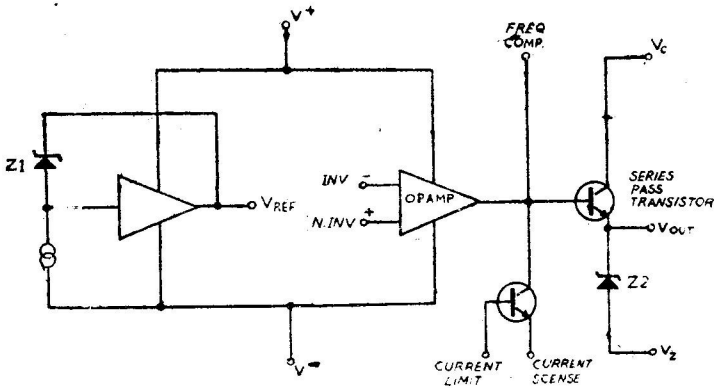

Fig. 7
*Internal block diagram of I.C. 723 (See Figure 7)*
The reference voltage in this I.C. is obtained by zener diode and an temperature compensating amplifier (see figure 7). This reference voltage is divided by resistance  $R_2$  and  $R_3$  to obtain 1.5 V at the junction of  $R_1$  and  $R_2$  and is applied at pin No. 3,